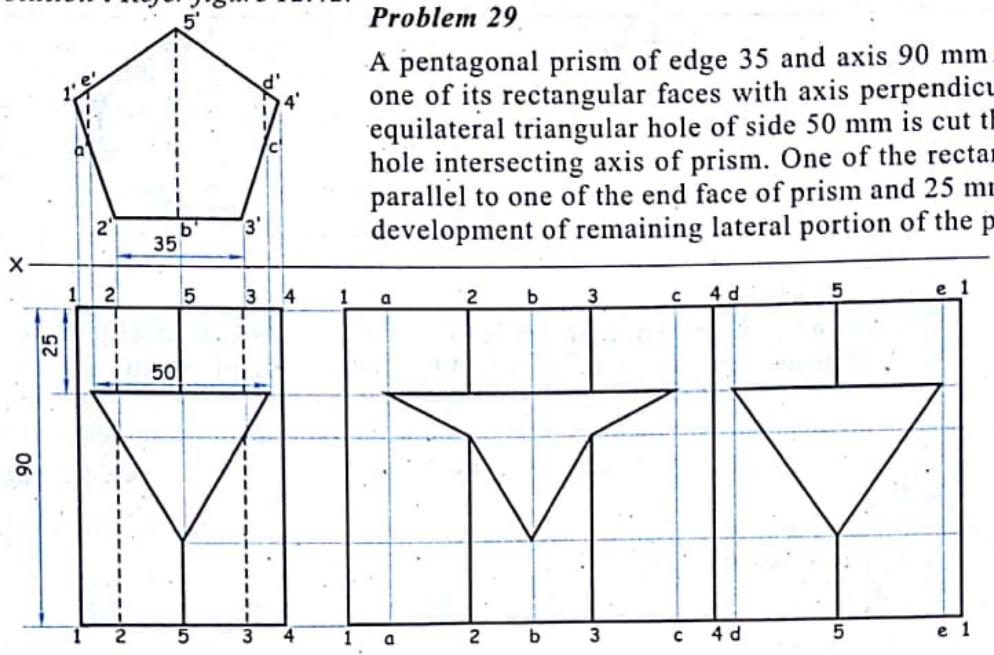

FIG. 12.42
**Solution :** Refer figure 12.42.